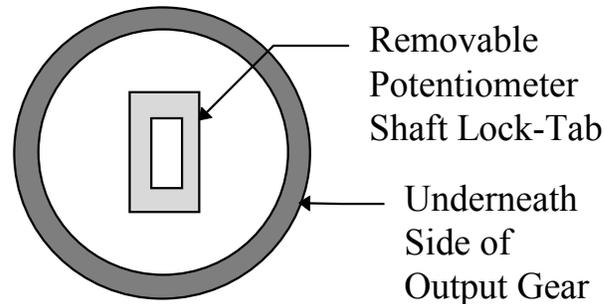

Figure 7. Illustration of the potentiometer shaft lock-tab inside the output gear.
6. Take the potentiometer lock-tab out of the output gear (**Figure 7**) so it will not turn the potentiometer shaft.